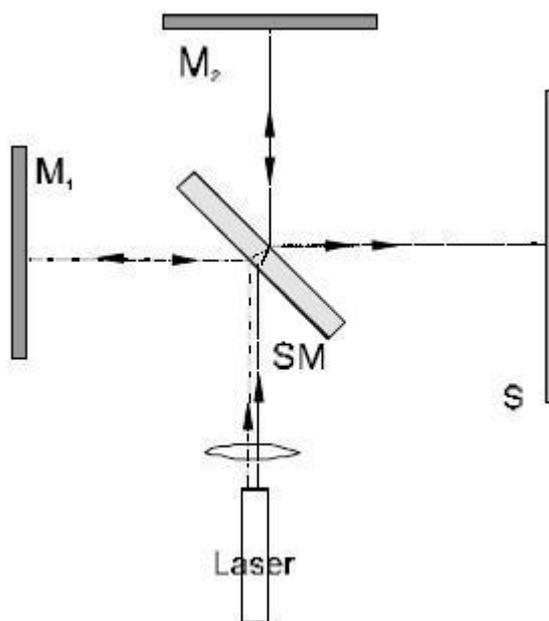

Fig. 2 Experimental set-up Michelson's interferometer. (M1, M2 = mirrors, SM = semitransparent mirror, S = ground screen)
- Position the laser half way along the longer side of the metal board (Fig. 2) and adjust the laser beam parallel to the ground plate (see Notes).
- Position the semi-transparent mirror between the laser and mirror M2 as shown in Figure 2. The angle between the semi-transparent mirror plane and the axis of the laser beam should be 45°. Correct positioning is vital.
- Position the ground screen as shown in Figure 2, on the shorter side of the board. The beam spot should appear in the centre of the screen.
By adjusting the set up according to Figure 2 it is very important that the interfering spherical waves are containing only a small angle (see Figure 3a), than we can observe the interference in the area I. If the spherical waves contain too big an angle (Figure 3b) the interference can not be observed. Therefore it is important to adjust the laser beam parallel to the ground plate and try to keep it parallel after reflection from mirrors M1 and M2.